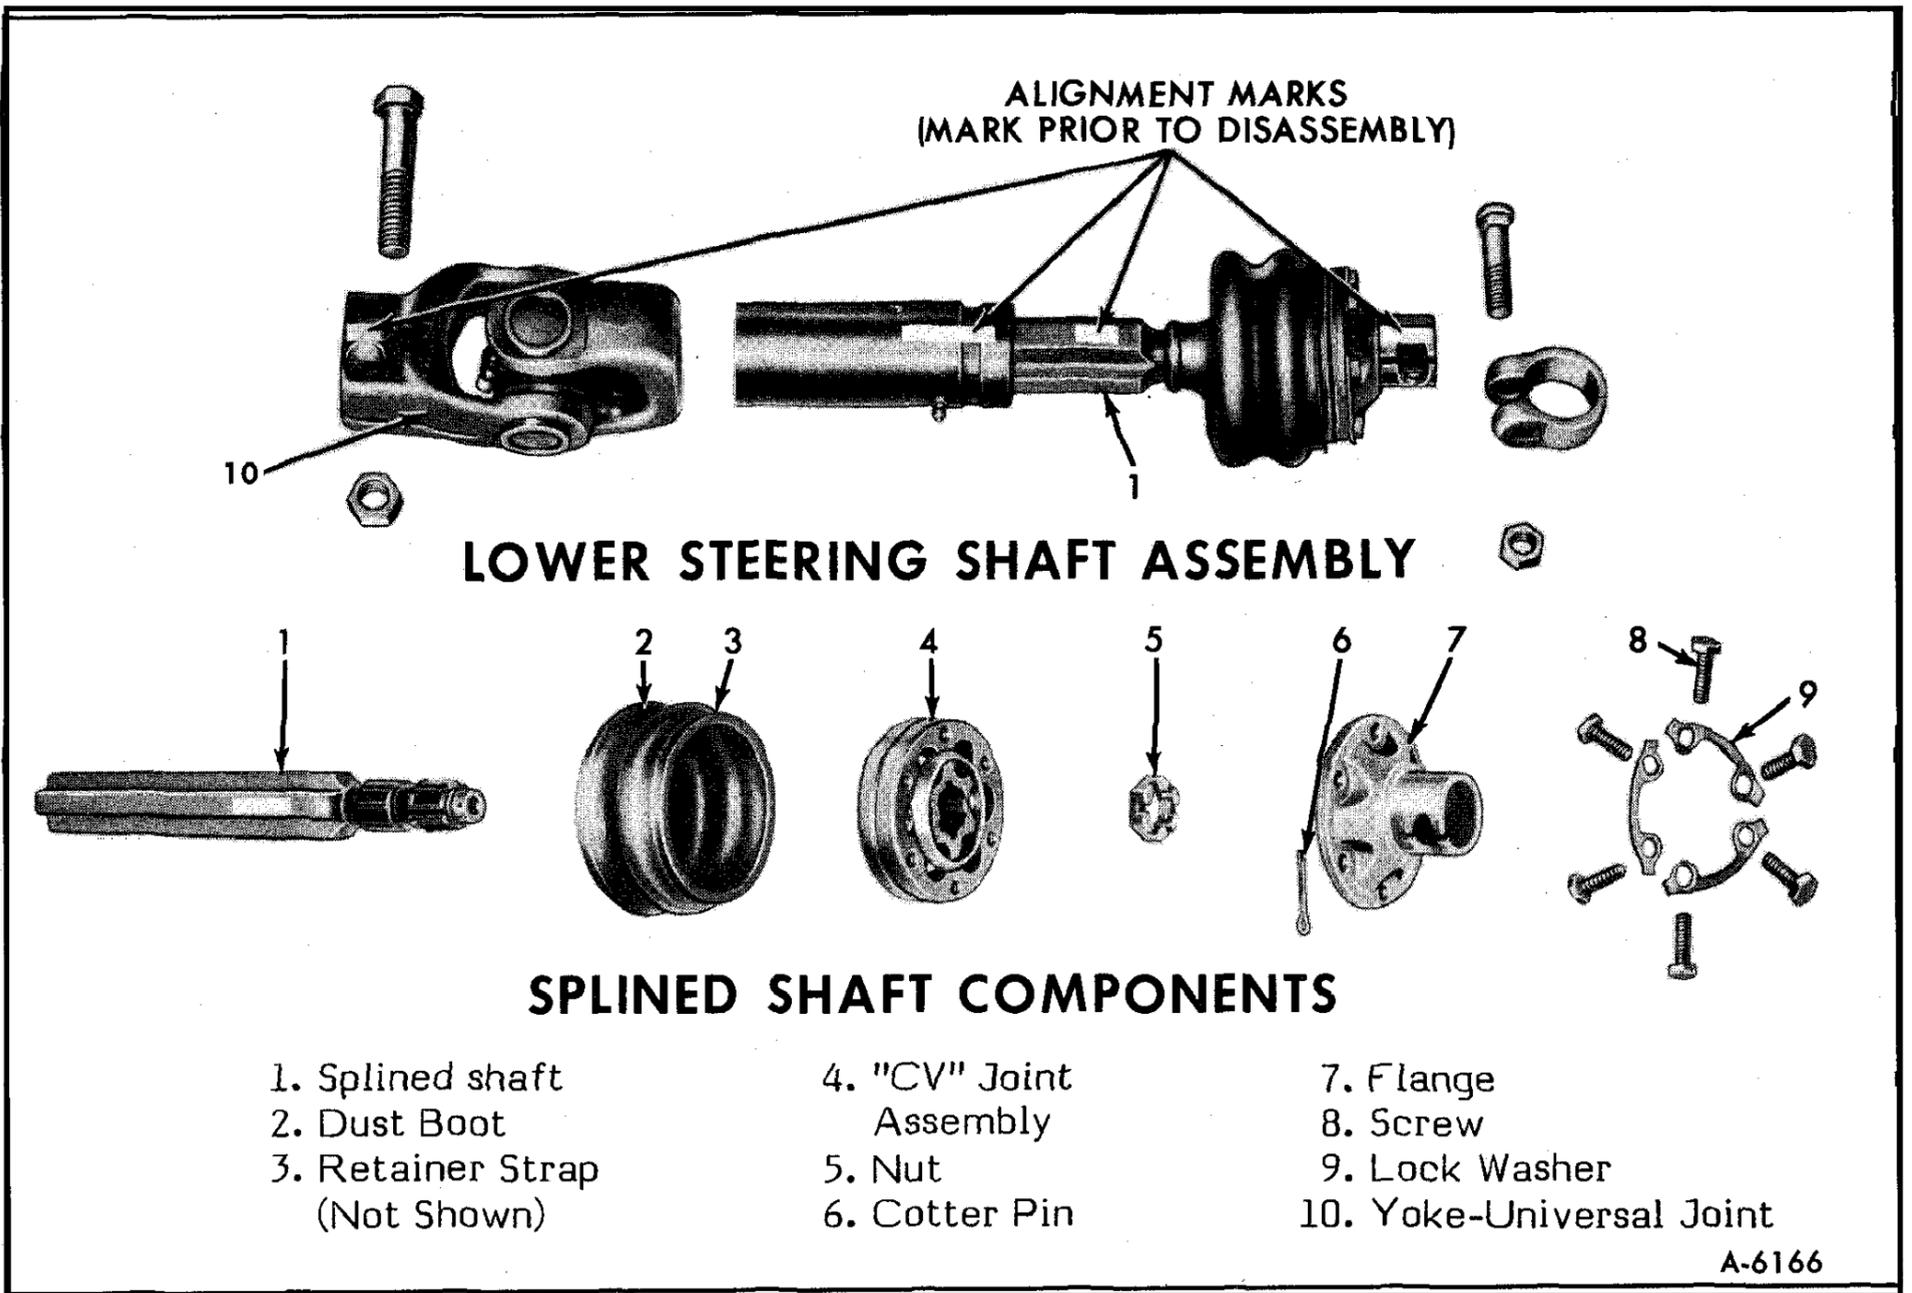

Figure 1—Lower Steering Shaft (Disassembled)
(Refer to Figure 1)
2. Mark relationship between companion flange and splined shaft, and between splined slip shaft and slip yoke assembly. (See figure 1.) Also mark relationship between lower steering shaft yoke end (universal joint) and steering gear input shaft.
**CONSTANT VELOCITY (CV) JOINT DIS-ASSEMBLY**
2. Remove locks (lock tab washers) on companion flange. **MARK RELATIONSHIP BETWEEN COMPANION FLANGE AND SPLINED SLIP SHAFT** (if not already marked). Then remove 6 bolts attaching flange to CV joint assembly (figure 1).